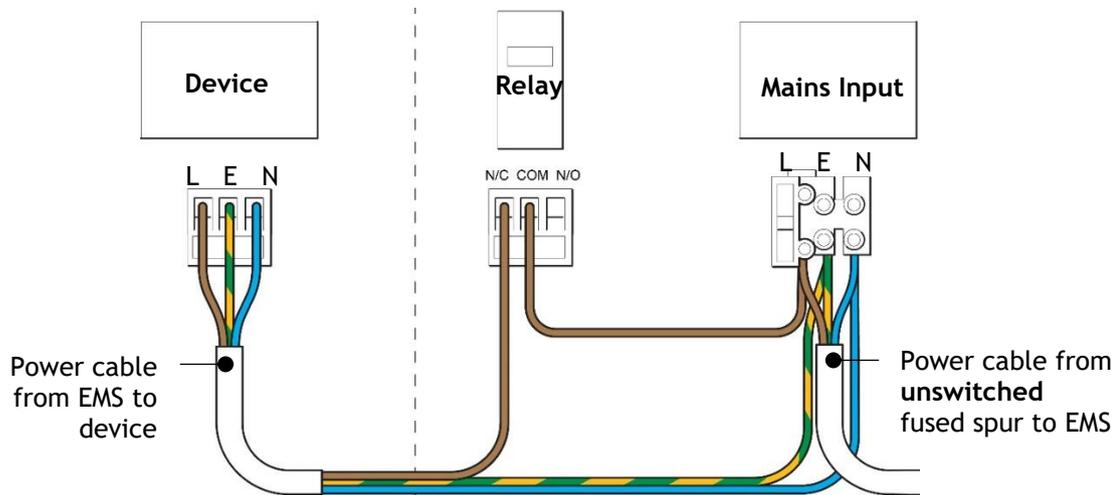
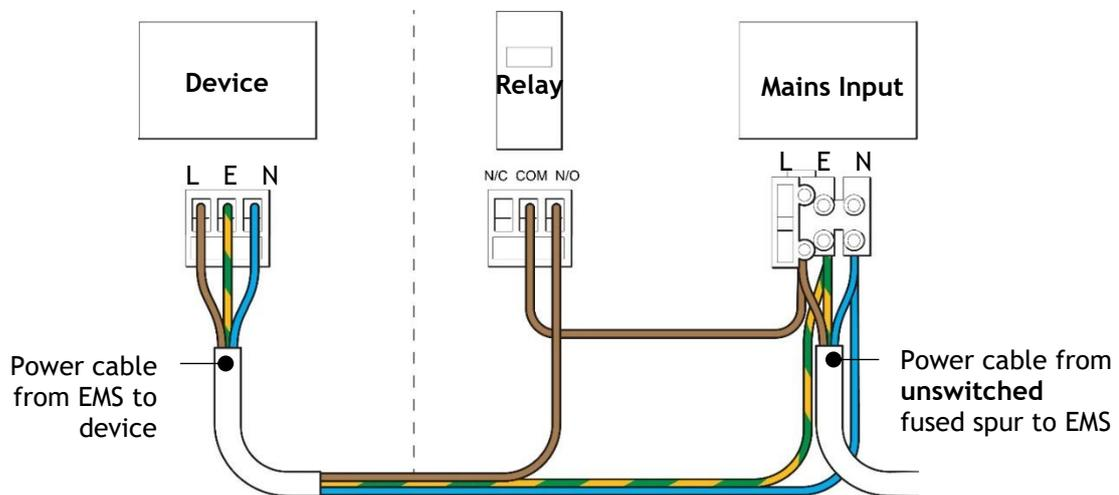

Figure 13: Using the EMS to Power a 230V Ancillary Device (Normally Closed)
Figure 14: Using the EMS to Power a 230V Ancillary Device (Normally Open)
2. Wire the device (Figure 13 and Figure 14).